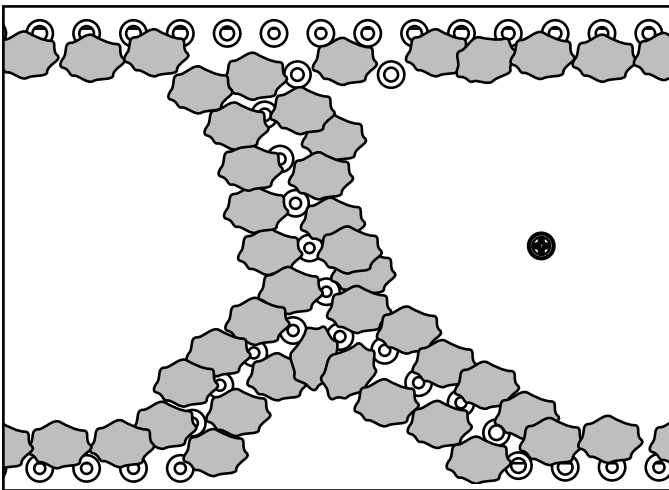

Figure 14.4 Embers Overlapping Burner Port Holes (LP only).
- **LP Only:** Using dime-size pieces of Glowing Embers®, overlap the burner ports (see Figure 14.4). The impingement created by the embers will help blend the fire.